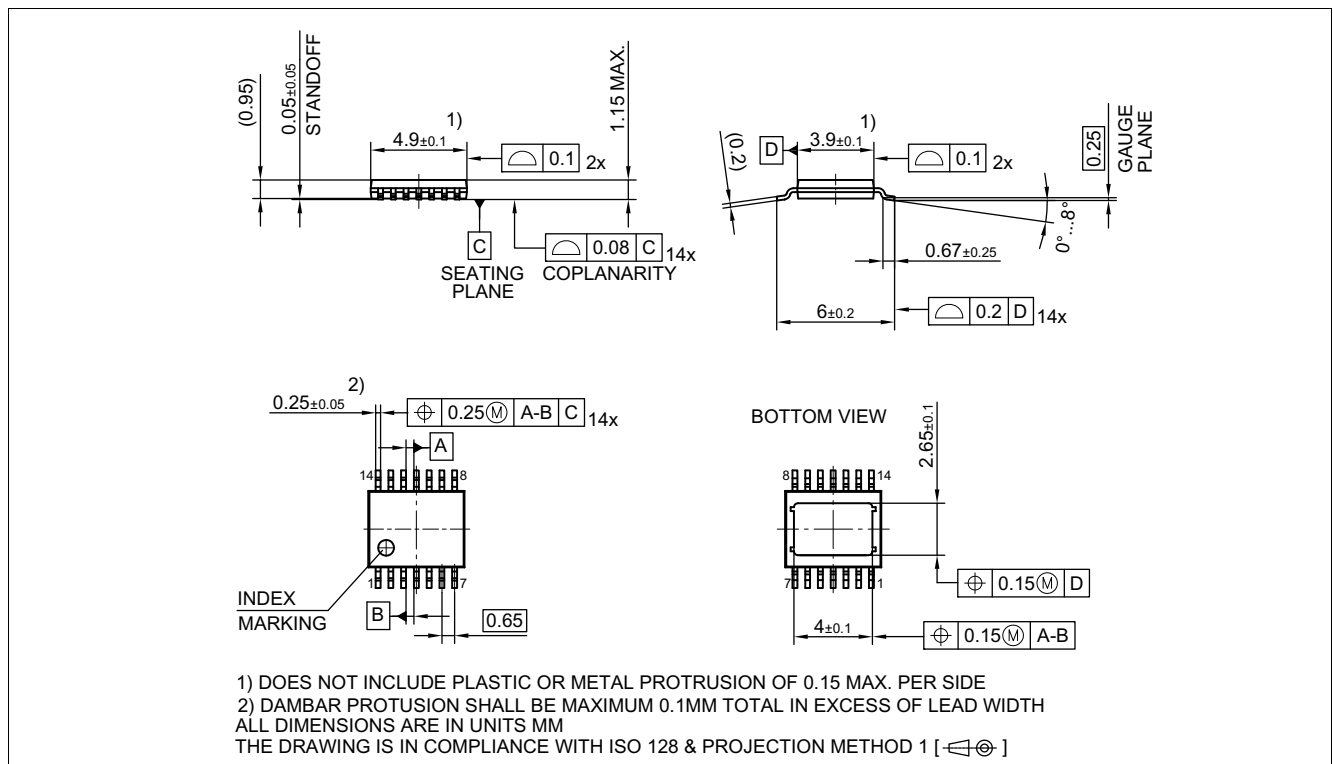
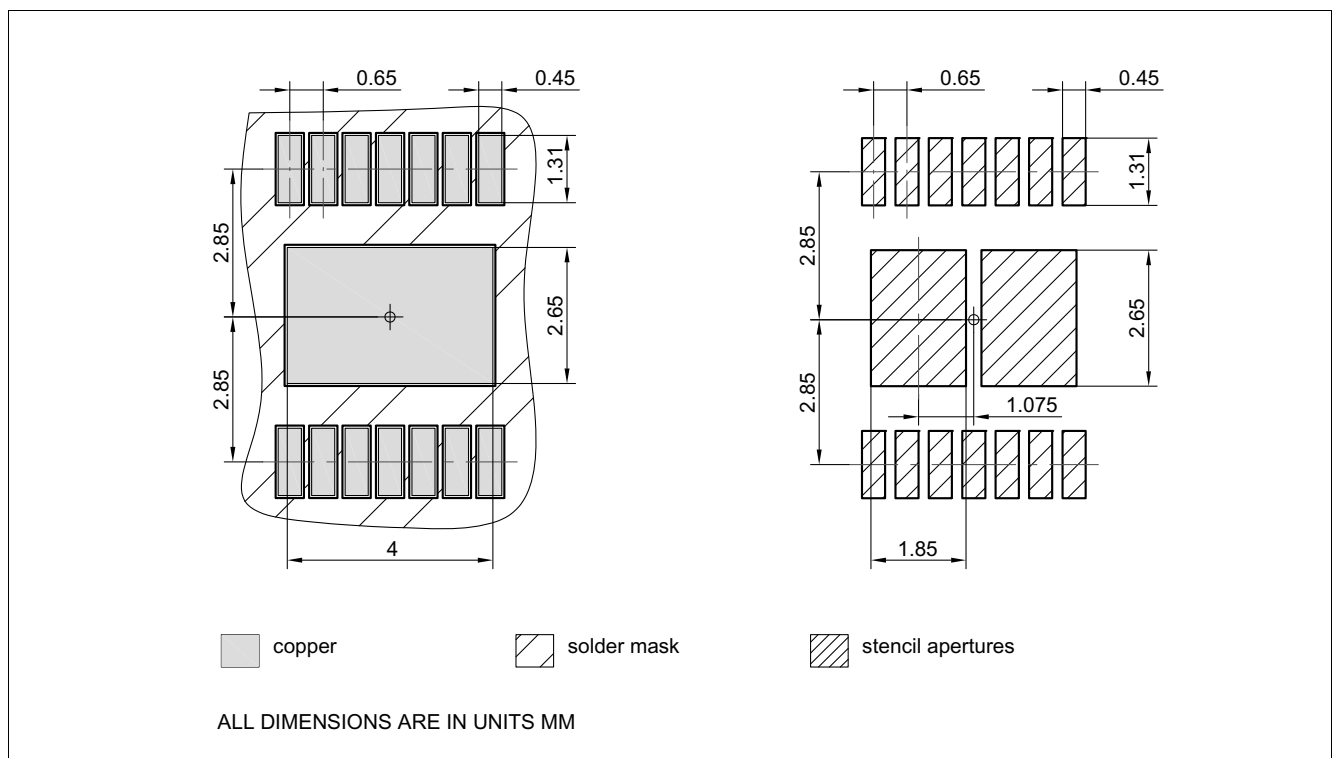

Figure 43 PG-TSDSO-14 (Thin (Slim) Dual Small Outline 14 pins) Package Outline
Figure 44 PG-TSDSO-14 (Thin (Slim) Dual Small Outline 14 pins) Package pads and stencil
1.02 , 2019-06-26	Chapter 9.2 updated ($2\text{ V} \rightarrow V_{DS(OLOFF)}$) Chapter 1 updated ((inserted headline "Product Validation"), (Qualified in accordance with AEC Q100 grade 1 $\rightarrow$ Qualified for automotive applications. Product validation according to AEC-Q100 Grade 1.)) General: updated Product Name (PROFET™+2 $\rightarrow$ PROFET™+2 12V) Page 1: updated figure product Table 24 updated punctuation Chapter 9.3.1 updated (typo) Page 1: updated (Package PG-TSDSO-14-22 $\rightarrow$ Package PG-TSDSO-14) Figure 29 updated Figure 43 updated (PG-TSDSO-14-22 (Thin (Slim) Dual Small Outline 14 pins) Package Outline $\rightarrow$ PG-TSDSO-14 (Thin (Slim) Dual Small Outline 14 pins) Package Outline) Figure 44 updated (PG-TSDSO-14-22 (Thin (Slim) Dual Small Outline 14 pins) Package pads and stencil $\rightarrow$ PG-TSDSO-14 (Thin (Slim) Dual Small Outline 14 pins) Package pads and stencil) Table 1 updated ((Symbol: $I_{VS(SLEEP)} \rightarrow I_{VS(SLEEP)_{85}}$), (Parameter: Minimum Overvoltage protection ($T_J = 25\text{ °C}$) $\rightarrow$ Minimum Overvoltage protection ($T_J \geq 25\text{ °C}$)) P_9.6.0.6 updated (Note or Test Condition: removed unnecessary line-break)